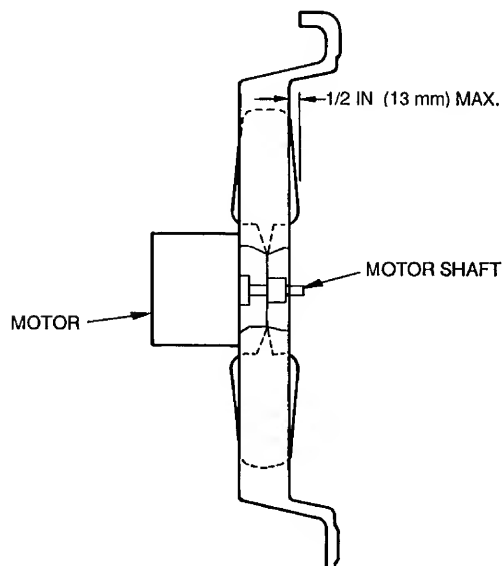

Fig. 22 — Fan Blade Clearance
- b. Make sure that outdoor-fan blade is correctly positioned in fan orifice. Leading edge of outdoor-fan blade should be $\frac{1}{2}$ in. maximum from plastic fan orifice (see Fig. 22).